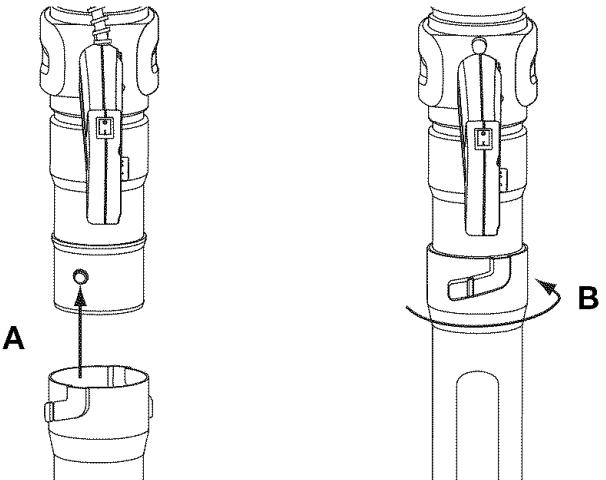

Fig. 3
1. Align the bump slot on the end of the first lower blower tube with the bump on the bottom end of the upper blower tube (Fig. 3, A).
2. Insert the bump on the upper blower tube into the bump slot on the tube extension (Fig. 3, A).
3. Twist the extension tube as shown around the upper blower tube until the handle tube bump locks into place (Fig. 3, B).